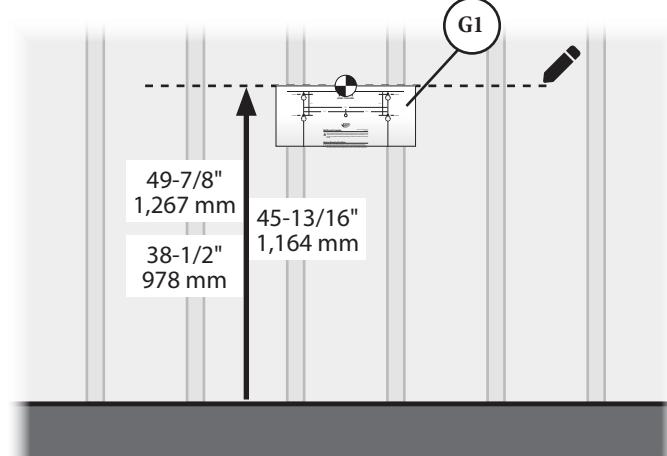

FIG. 2
- 2 Mark a straight level line 45-13/16" (30-Gallon drum), 38-1/2" (35-gallon drum), or 49-7/8" (55-gallon drum) from the ground. Align the top of the Template (G1) with the marked line [FIG. 2] and temporarily secure the Template (G1) to the wall with a tack or non-marking tape. If you purchased the Universal Drum Dolly, add an additional 4".